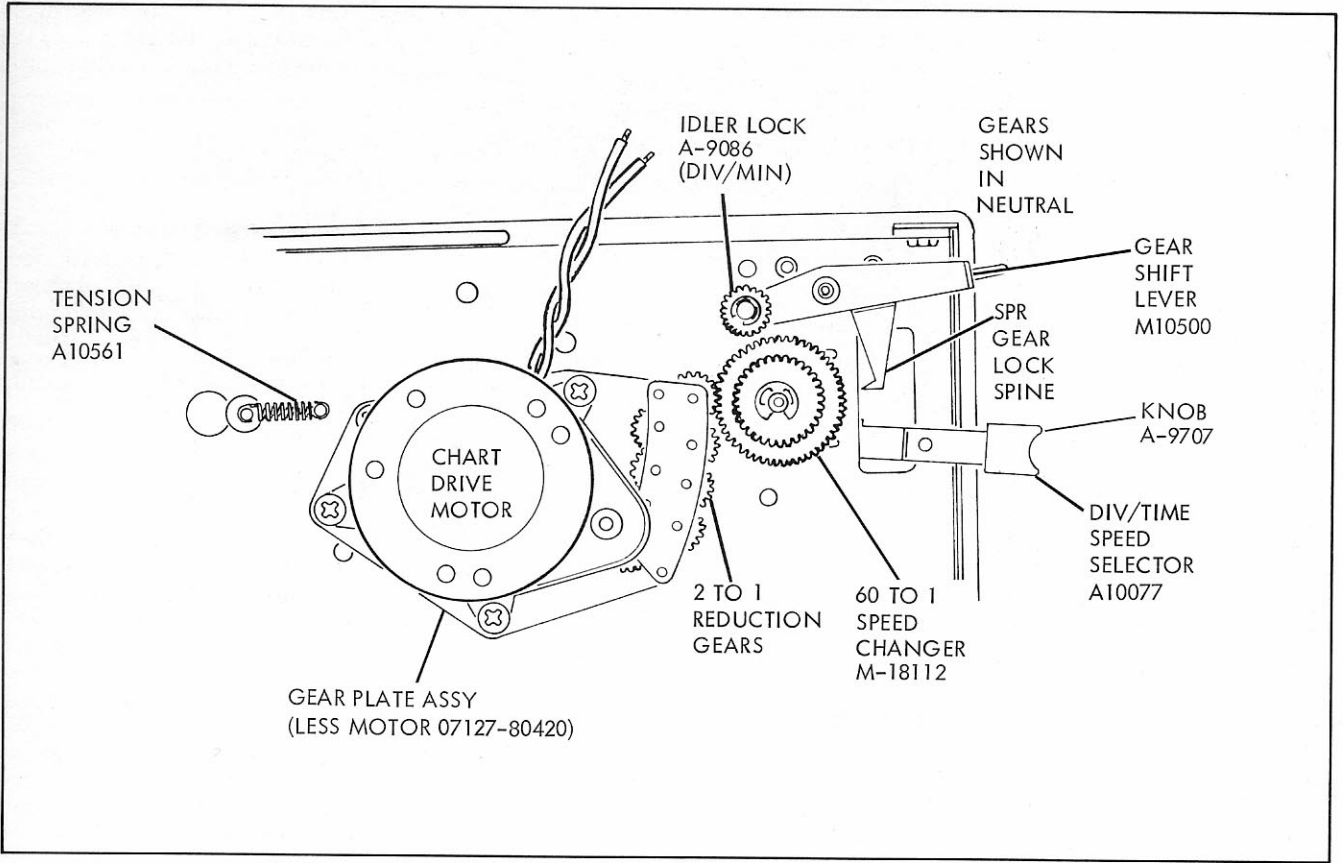

FIGURE 4-3. CHART DRIVE GEAR MECHANISM
4-19. CHART DRIVE SYSTEM. A sixteen RPM synchronous motor advances the chart paper through a gear assembly which provides chart speeds of 1, 2, 4, 8 inches per minute, and 1, 2, 4, 8 inches per hour on the Model 680; 2.5, 5, 10, 20 cm/min. 2.5, 5, 10, 20 cm/hr on the Model 680M. This assembly is illustrated in figure 4-3. The chart drive motor drives a cluster of reduction gears with a 2:1 reduction for each of four gears. The speed selector brings the 60:1 speed reducer into mesh with one of the four gears in the cluster. Selection of divisions per minute or hour and also neutral is determined by the gear train control. In the divisions/minute position an idler gear locks the input gear (A) and large spur gear (F) together. (Refer to figure 4-4.) Operation of the 60:1 speed changer is described in paragraph 4-20. In the position just described a 1:1 ratio prevails. When the gear train control is moved to the divisions/hour setting the large spur gear (F) is locked in place. This results in the sun gear and planet gear rotating internally in the 60:1 speed changer thus driving the output gear at a 60:1 reduction. In the neutral position neither the spur gear nor the lock key is engaged; therefore, the input gear rotates freely with no output. This position allows manual advance of the chart.